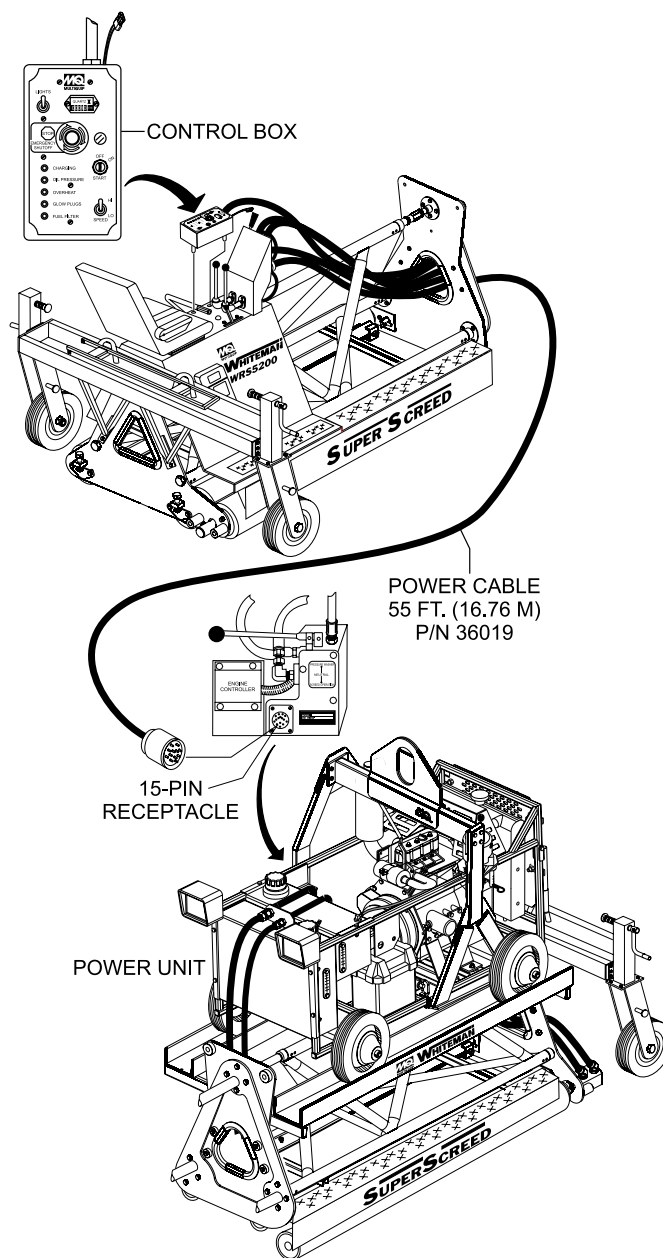

Figure 29. Power Cable Connection
3. Locate the 55 ft. (16.76 meters) power cable P/N 36019. Route this cable (Figure 29) from the control box thru the trusses to the 15-pin receptacle located on the power unit.